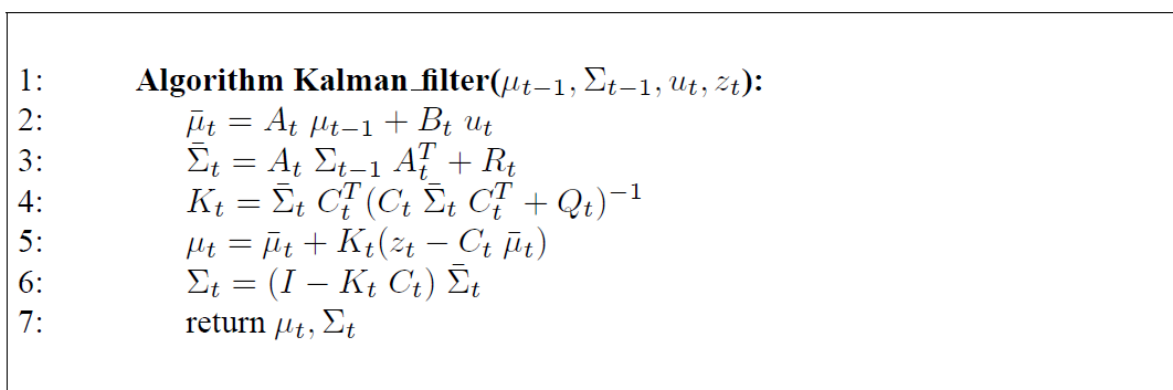

Figure 1: Kalman filter. Note that steps 2 and 3 (called prediction) can be done independently from steps 4 to 6 (update step).
8. **(Q)** Another method to fuse measurements is the Kalman filter. Take a look at the formula (seen in class) in Figure 1. What are μ , Σ , u and z ? What is the purpose of K ?
Hint: line 3 of Figure 1